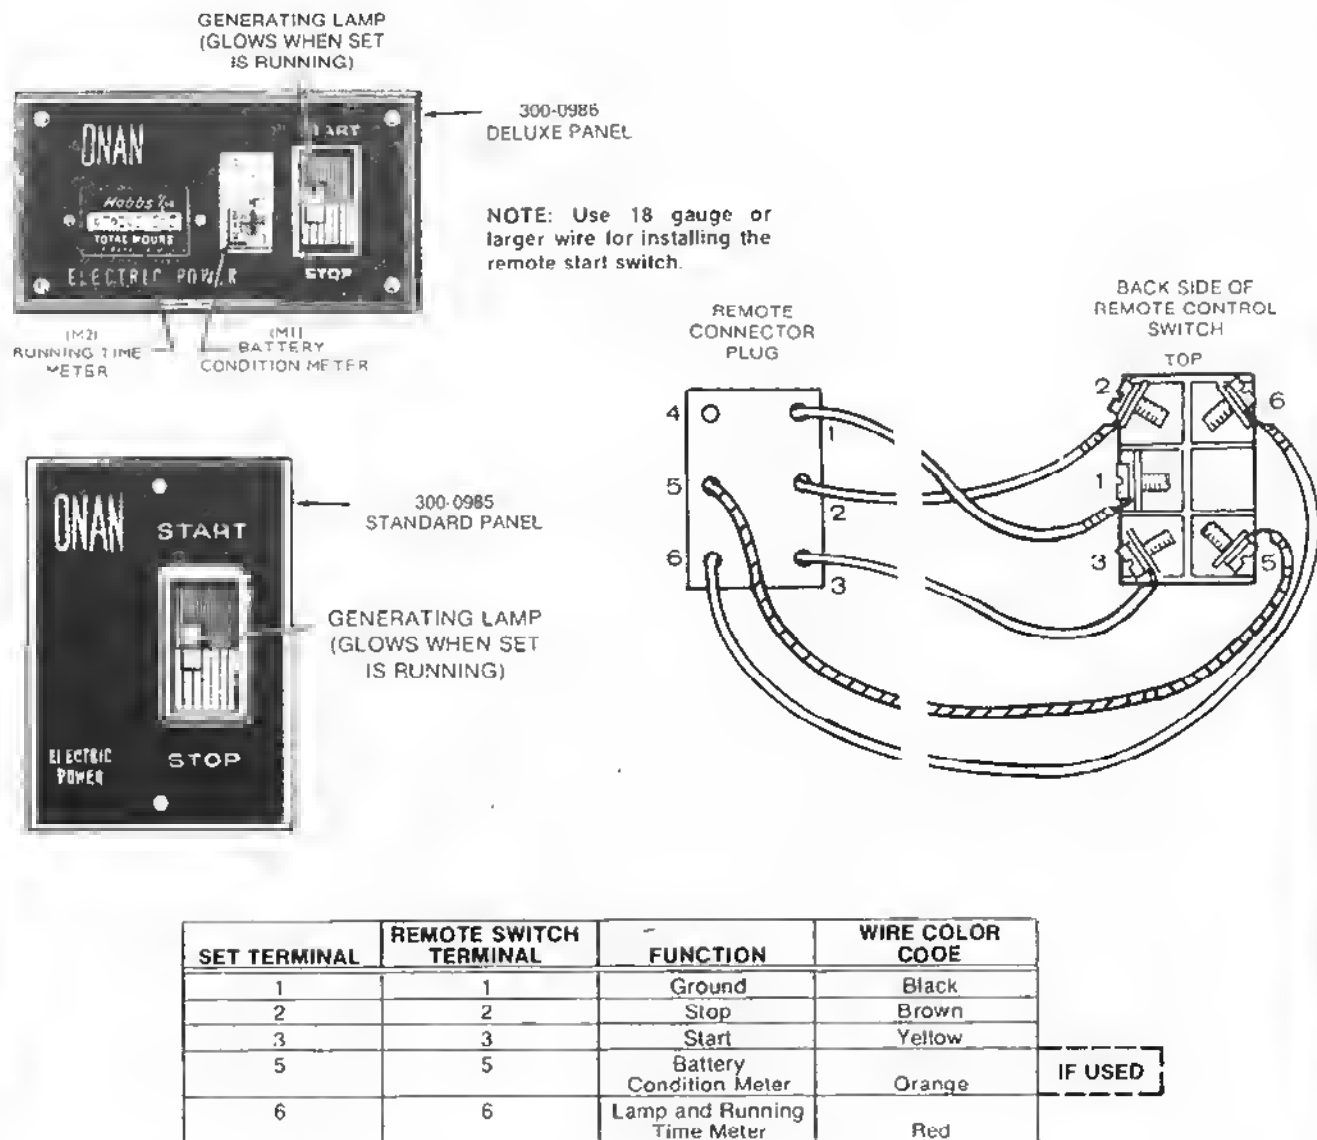

FIGURE 19. WIRING CONNECTIONS FOR 300-0985 AND 300-0986 REMOTE CONTROLS
2. Following national local electrical codes and using #18 or larger insulated wires of predetermined length, connect remote control to generator set. Ensure that leads from remote control connect to corresponding terminals on generator set. Refer to Figure 19 for wiring connections.